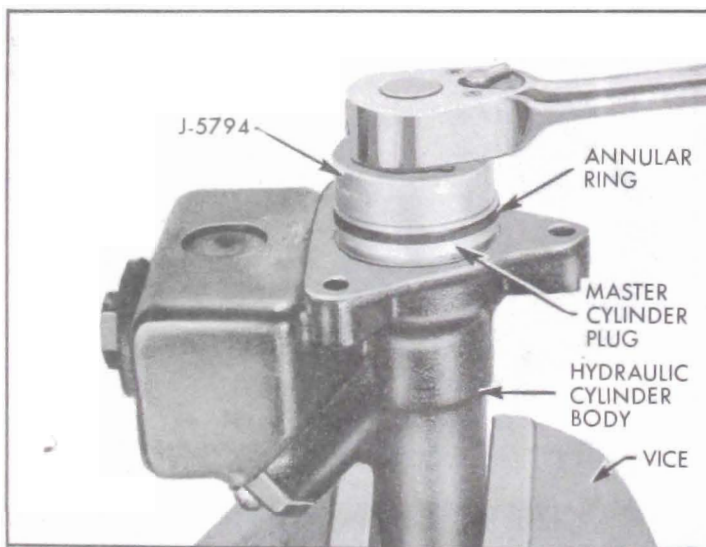

Figure 9-20—Removing Cylinder Plug
17. With hydraulic master cylinder still clamped vertically in a vise, remove power piston return spring. Remove three bolts and pull power cylinder straight up. Remove gasket. Unscrew master cylinder plug, using Wrench J-5794. Remove two annular rings. See figure 9-20.